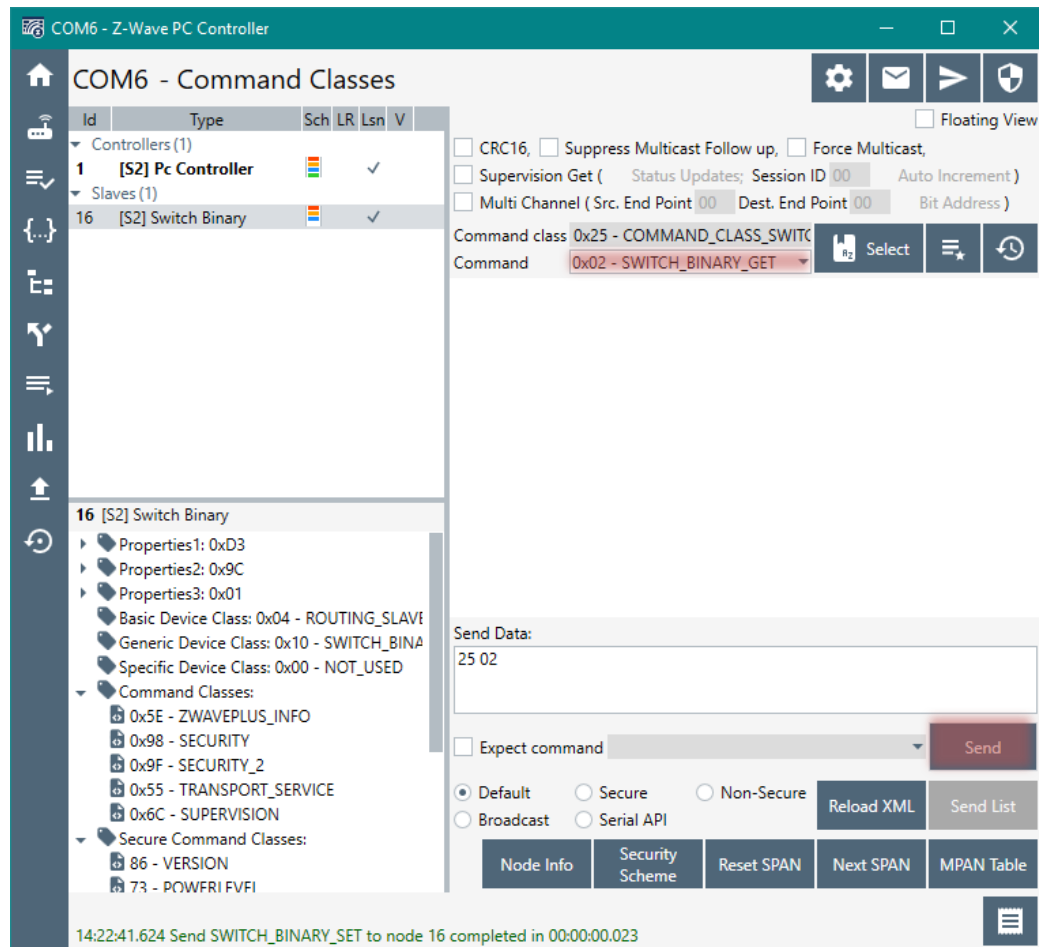

Figure 25: PC Controller, Command Classes View—Send Switch Get Command
- 8) Send a Get Command to verify the switch was set accordingly. Refer to Figure 25.